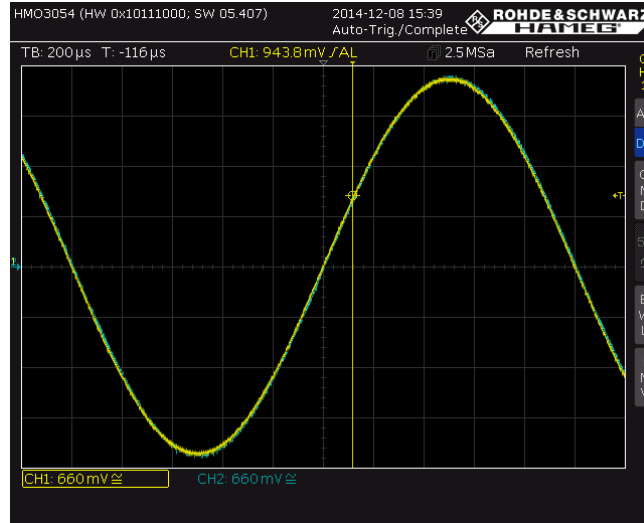

Fig. 2-38: Superimposed display of CH1 and CH2.
- Use the *TIME/DIV* rotary knob to change the y deflection until a complete signal oscillation is visible. Use the horizontal position rotary knob to shift the signal until it passes through the zero crossing (Fig. 2-38).
- As described in 1.1, the capacitor represents an infinitely high resistance at low frequencies, so that the entire voltage is received at the capacitor ($U_{in}=U_{out}$). As is to be expected, the output voltage has no phase response (Fig. 2-38).